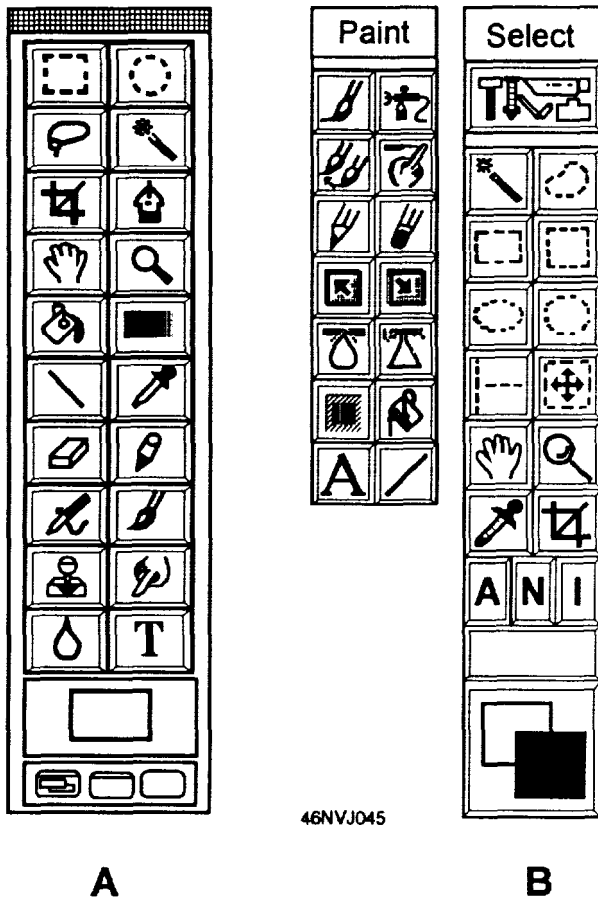

Figure 3-13.—Photoshop and PhotoStyler tools.
*Photoshop* is available for both Macintosh and PC/windows platforms. *PhotoStyler* is designed for use in the PC windows environment only. Figure 3-13 shows some of the tools available in these two computer programs. As you can see, these two imaging software packages are very similar.